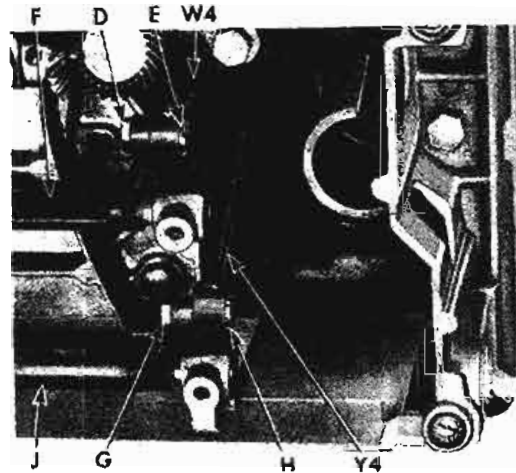

Fig. 45. Connections beneath Machine Bed
4. Remove nut D, Fig. 45 and eccentric stud E, disengaging connecting rod W4 from feed lifting rock shaft F.
3. Replace stud E, Fig. 45, and nut D, engaging connecting rod W4 to shaft F.